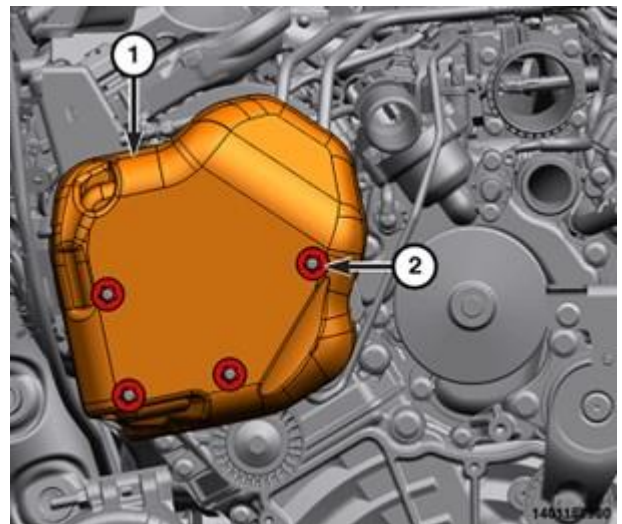

Figure 90 – Pump Silencer
179. Install the fuel injection pump silencer (1) and the fasteners (2) (Figure 90).